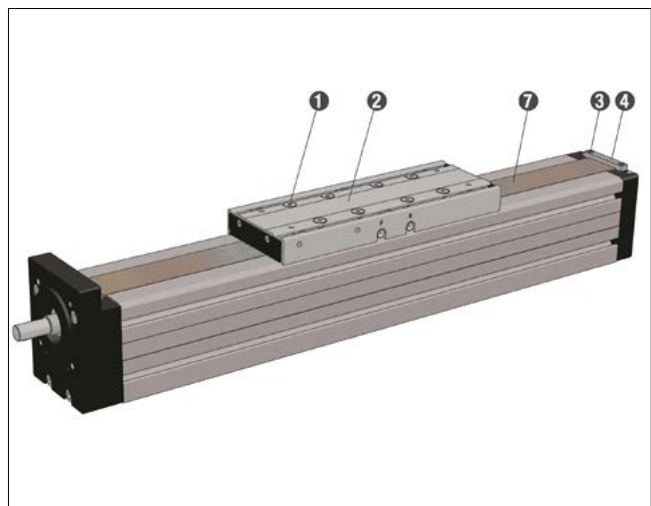

Figure 4.13 __ Cover strip replacement
For the replacement of the cover strip for Linear Axis of the series AXC, the following steps in accordance to Figures 4.13 up to 4.17 must be observed:
1. Disassemble the screws **1** and remove the slider plate **2** (Figure 4.13) (omitted for AXC100).